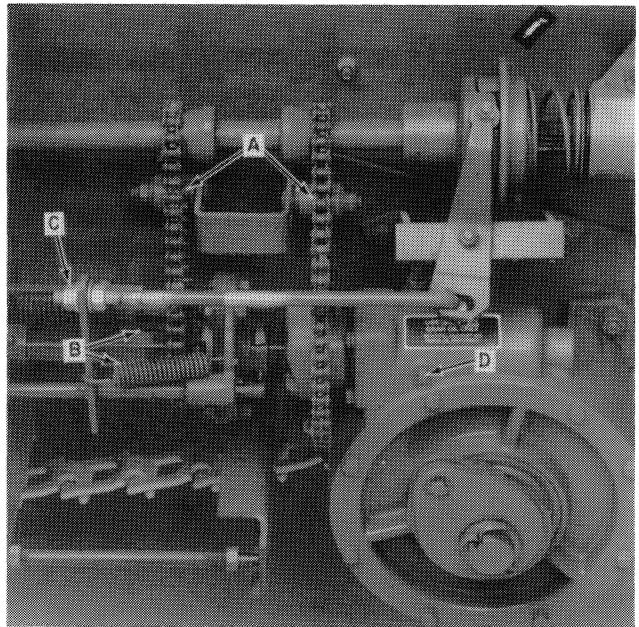

FIGURE 2
2. Remove the two gearbox drive chains, A, and the clutch shifter springs, B, Figure 2.
3. Remove the clutch rod nut, C, Figure 2.
Fill the worm gearbox to the oil level check plug, D, Figure 2 (Models 130, 145, 155, 165, 185, 514, 520, 680) or to the center line of the input shaft on older models.
ATTENTION: Before tensioning chains, A, Figure 2, turn the input shaft in the direction of rotation to fully seat the input shaft bearing cone in the race.